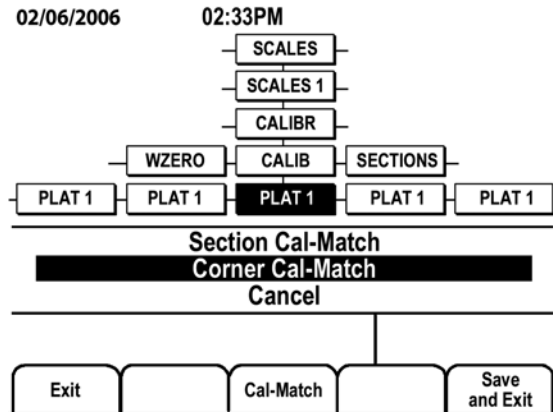

Figure 5-2. 920i Cal-Match Selection
6. Ensure scale is empty, then use the up and down keys to select **Corner Cal-Match** (see Figure 5-2) or **Section Cal-Match**. Press enter. The *iQUBE* calculates the zero reference point.